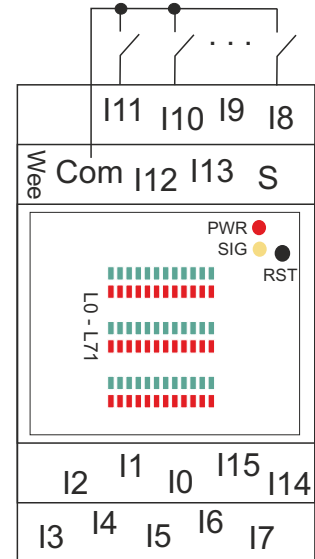

Fig 1. Diagram of connection coupling
1. Note of the card PIN and Serial Number (SN) device (Both located on the housing of the device)
2. Connect the cables Com, S, and 0-I 15 according to Fig 1